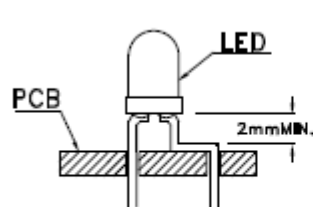
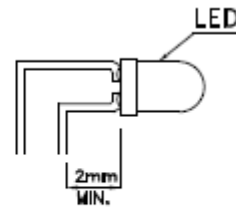

Fig. 5
Fig. 6
1. Maintain a minimum of 2mm clearance between the base of the LED lens and the first lead bend (Fig.5 and Fig.6)